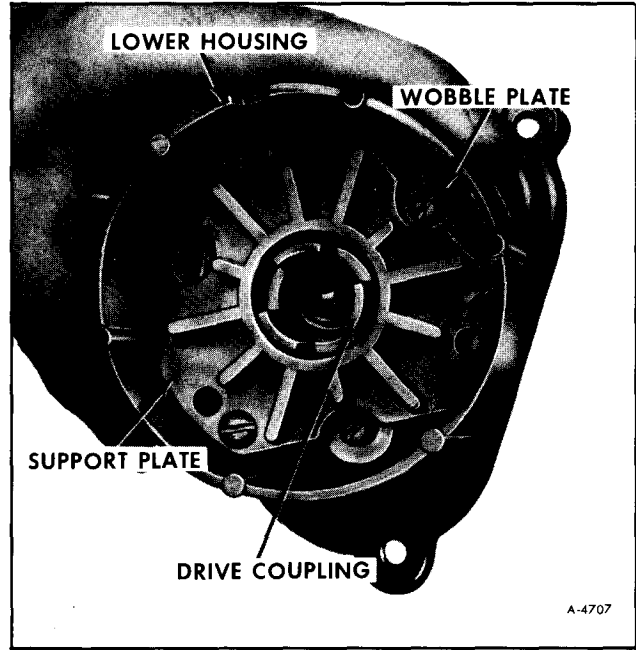

Figure 36—Support Plate, Drive Coupling, and Wobble Plate Assembled in Lower Housing
5. Place support plate over drive coupling and secure with three screws to housing (figure 36).